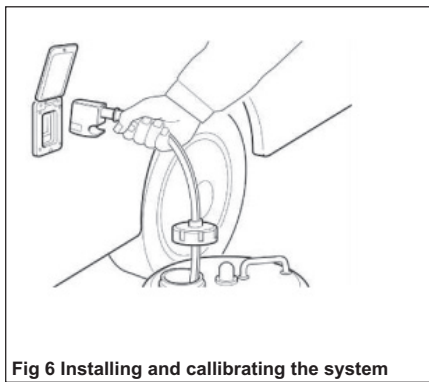

Fig 6 Installing and calibrating the system
Step 1 - Place pump into a full water container (Fig 6).